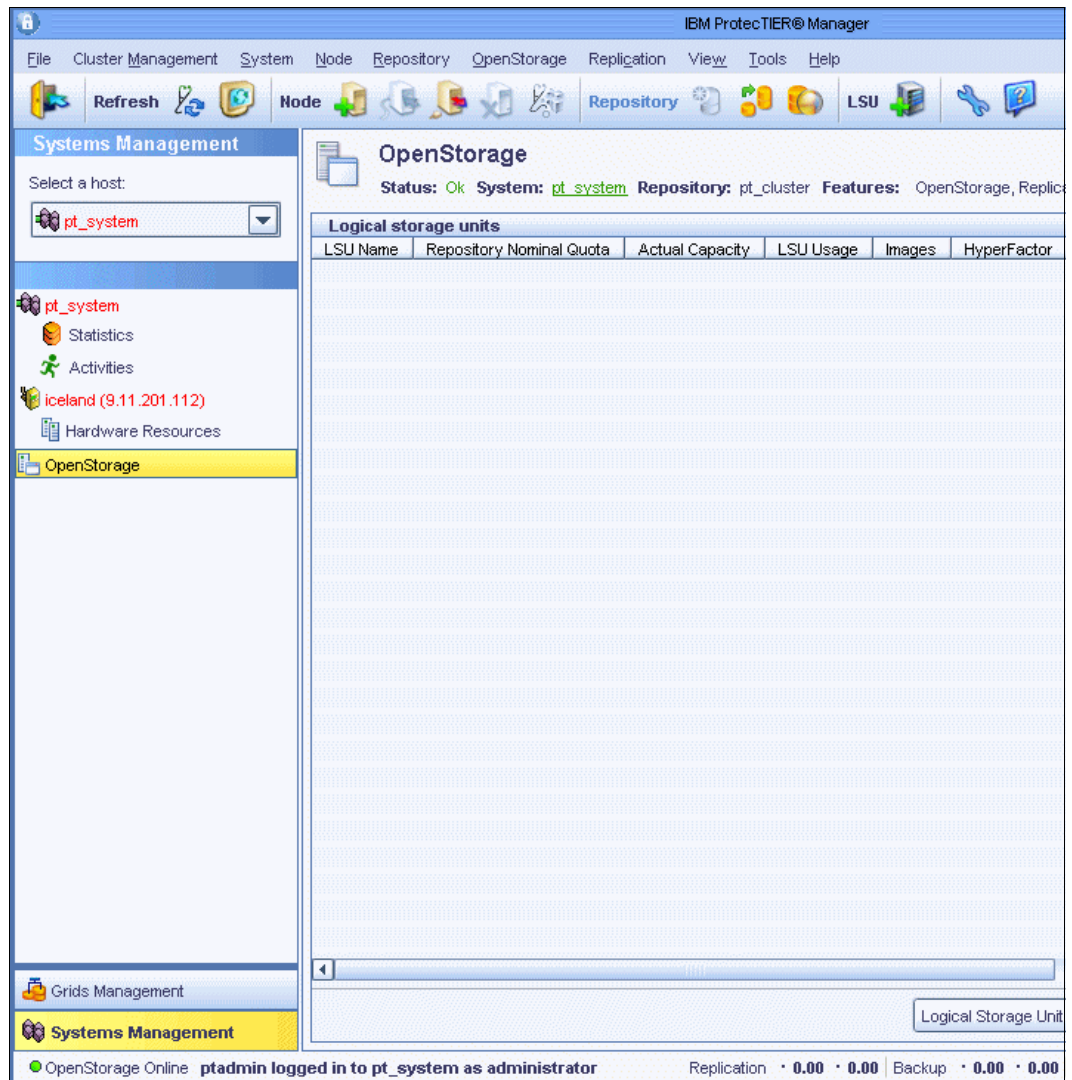

Figure 5-79 Log in to the OpenStorage system
1. Log in to ProtecTIER Manager (Figure 5-79). You should see that it is an OpenStorage system.